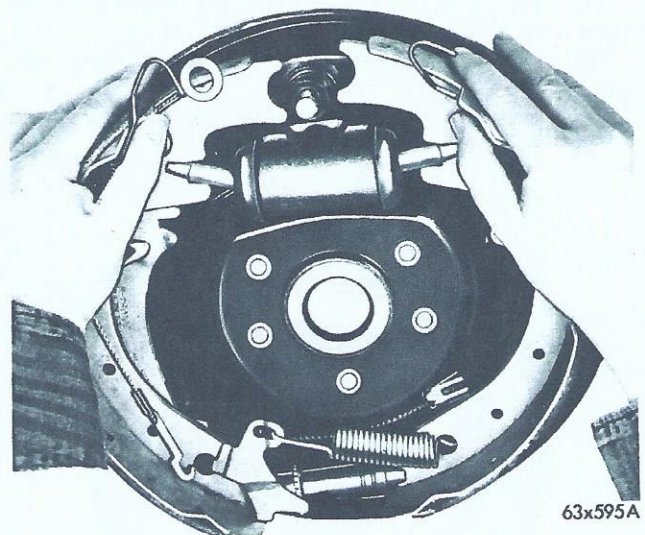

Fig. 9—Removing or Installing the Brake Shoes
(3) Overlap the anchor ends of the primary and the secondary brake shoes and install the adjusting spring and lever.
(4) Spread the anchor ends of the brake shoes to maintain the adjusting lever and spring in position.
(5) Holding the brake shoes in their relative position, place the brake shoe assembly on the support and over the anchor pin (Fig. 9).
(6) Install the retainer pins, cups, springs and retainers.